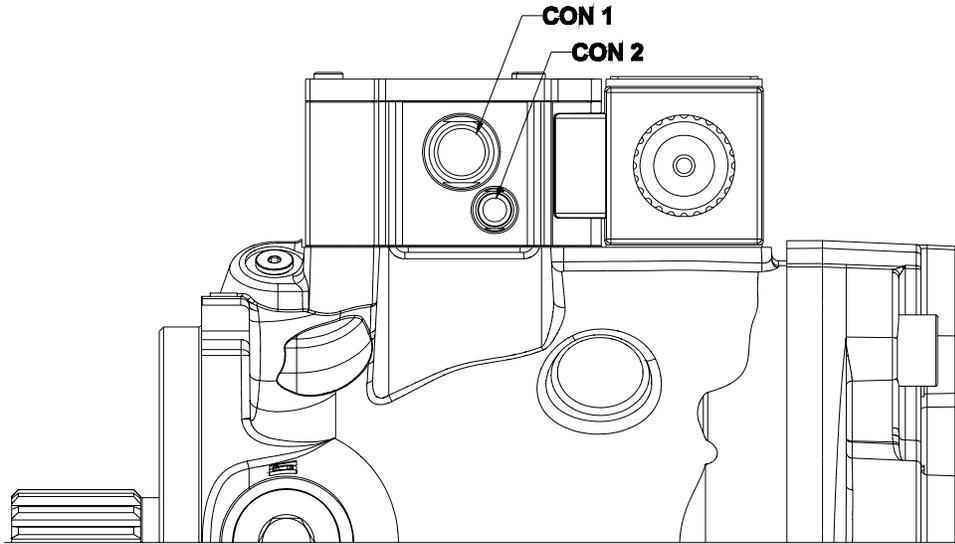

Figure 1: A View of the pump showing the connection locations of the 30 pin connector, and 3 pin RS-232 connector.
1. Plug in the CON 1 – 30 pin circular mating connector, that was supplied by Parker, into the pump, see Figure 1.
10. Plug in CON 2 (3 pin RS-232 connector) into the pump, see Figure 1, and plug the DB9 connector into the computer.